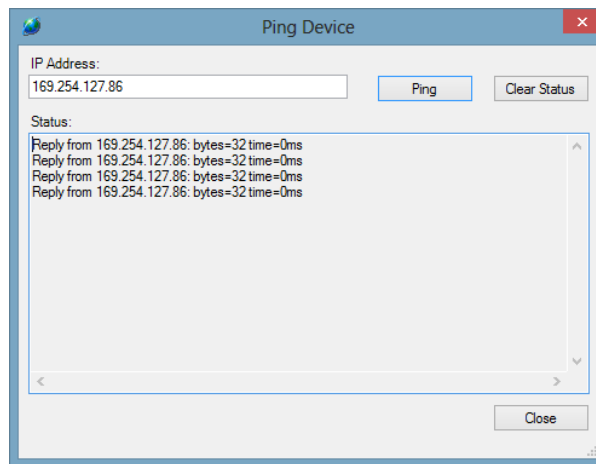

Fig 6.12.1
6.12 If the converter responses, it will display 4 lines of message as shown in Fig 6.12.1